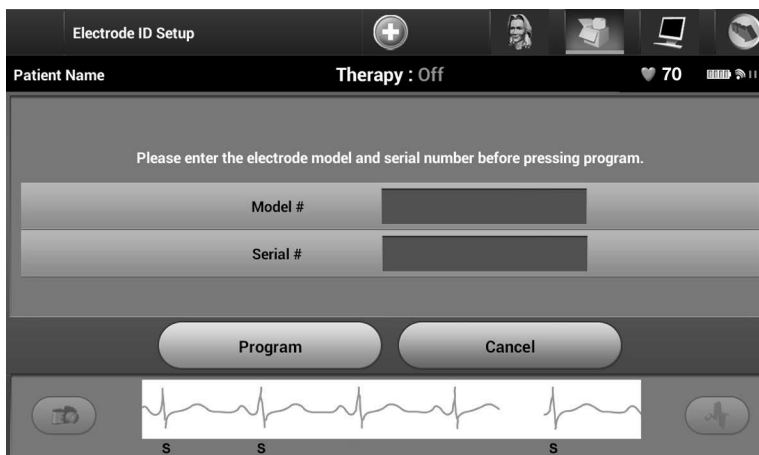

Figure 21: Entering electrode information
5. Enter the electrode model and serial number (Figure 21).